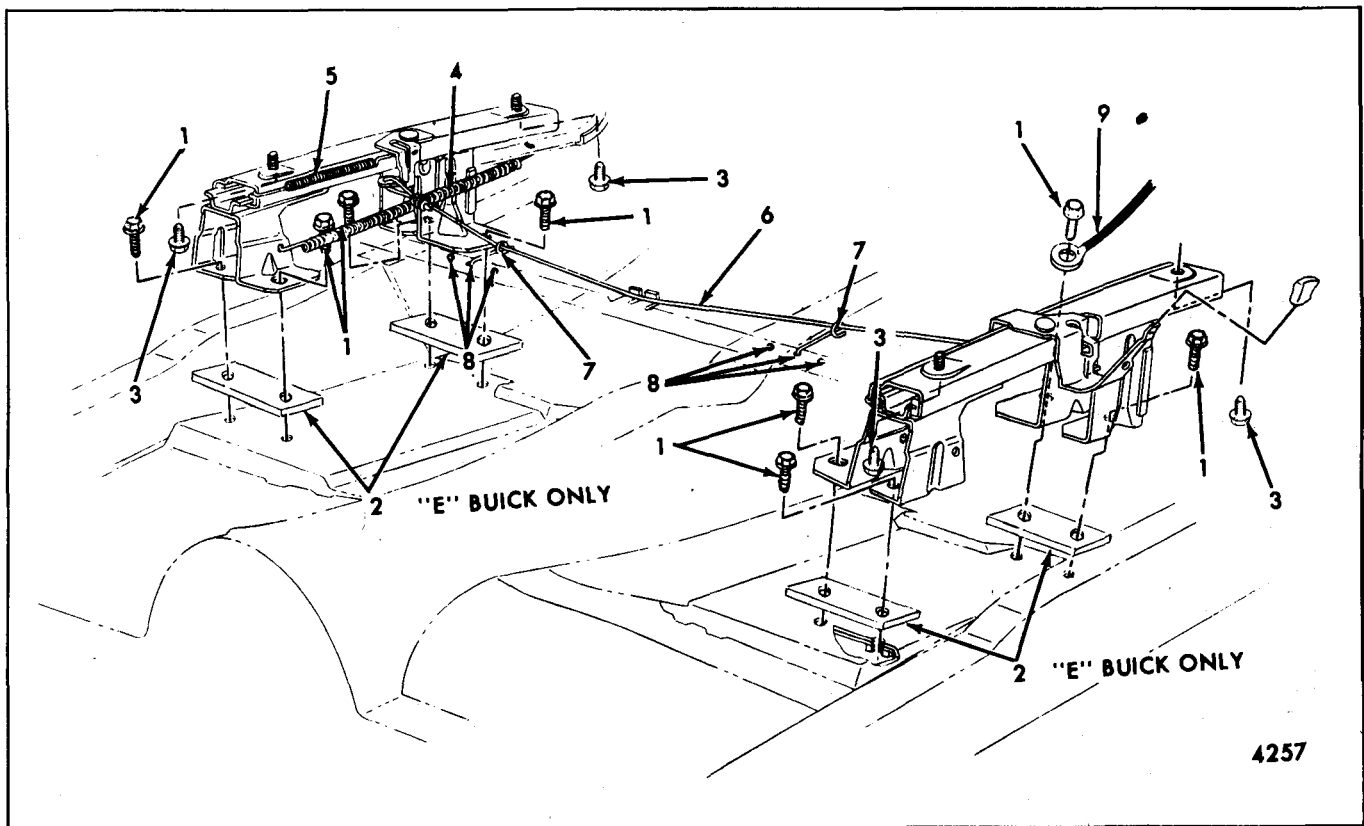
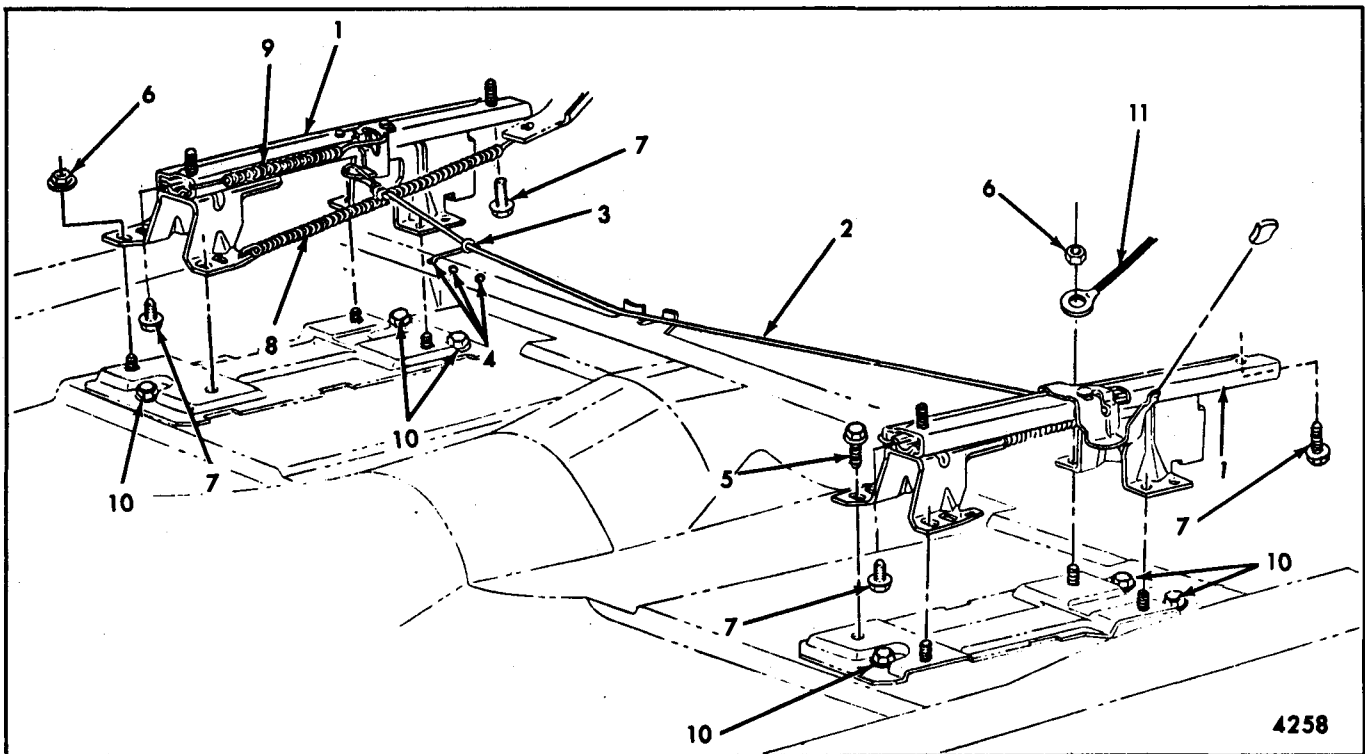

Fig. 14-4-Front Seat Adjuster - Manually Operated Full Width Conventional Seats - "B, C and E" Body
Fig. 14-6-Front Seat Adjusters - Manual Operated Full Width Strato Seat - Buick "E" Body
4. At rear of adjusters, remove adjuster-to-floor pan rear attaching nuts or bolts. (Fig. 14-4, 14-6 or 14-5).
2. Remove seat adjuster assist spring from adjuster to be removed (See Fig. 14-4, 14-6 or 14-5).
4. Remove adjuster-to-seat bottom frame front and rear attaching bolts and remove seat adjuster from seat (Figs. 14-4 and 14-6).
After installing adjuster to seat frame, check operation of adjusters. If on full width seats the adjusters do not lock or unlock satisfactorily when control handle is operated, disengage locking wire retainer from hole in seat bottom frame and engage retainer in one of adjacent holes to obtain proper tension in wire (Fig. 14-4, Item "8", Fig. 14-6, Item "4").